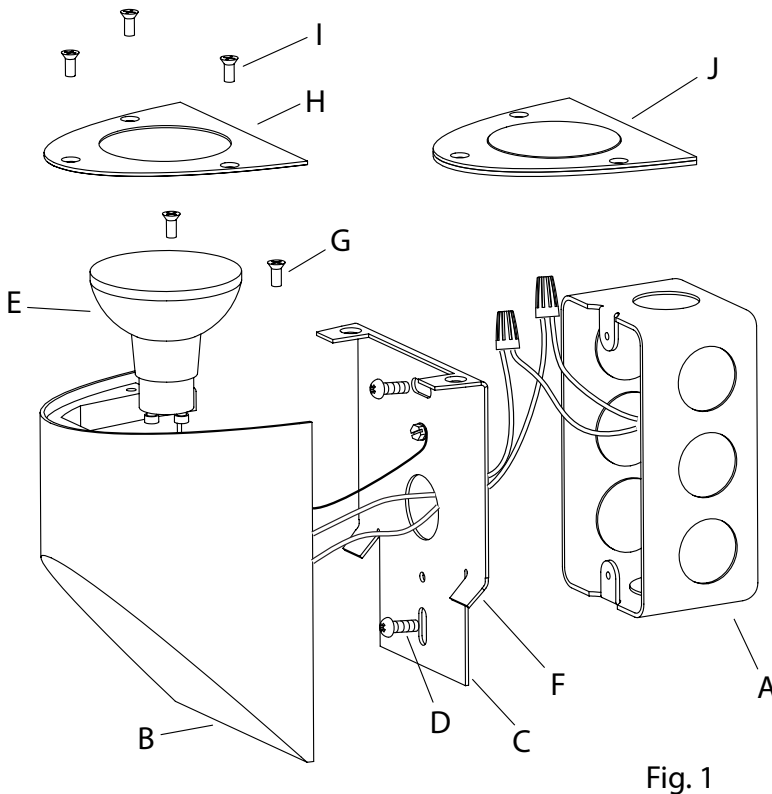
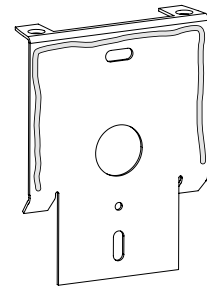
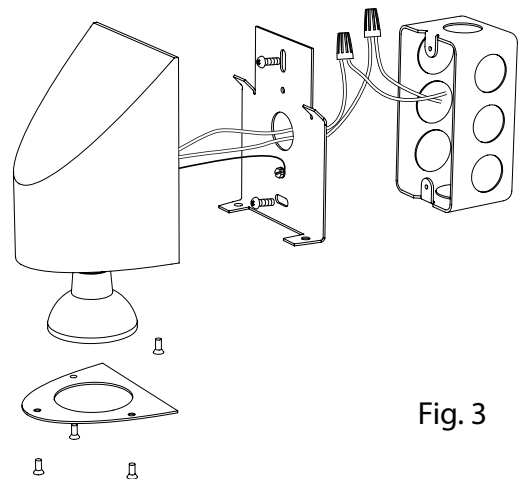

Fig. 1
Fig. 2
Fig. 3
1. Shut off power to the outlet box (A).
- a. Connect the fixture's (B) live wire (black) to the live outlet box wire.
- b. Connect the fixture's (B) neutral wire (white) to the neutral outlet box wire.
- c. Connect the fixture's ground wire (green or uncoated) to the ground outlet box wire. If no ground is present in outlet box, connect fixture's ground wire to the mounting plate (C) using the green screw (included).
- d. Carefully place connections in outlet box (A).
3. Attach the mounting plate (C) to the outlet box (A), secure with outlet box screws (D).
**For Wet Location Use:** If installing for uplight (Fig. 1), place a bead of silicone or water proof caulk (not included) around the top and sides of the mounting plate (Fig. 2) between the mounting plate and the wall, with a mounting height at least 4' from the ground.
4. Install a GU10 base MR16 LED bulb (E) into the fixture (B).
5. Install the fixture (B) to the mounting plate (C) by hooking the two bends (F) onto the tabs in the fixture. Secure with mounting screws (G).
6. Place the cover plate (H) onto the fixture (B), secure with screws (I).
**For Wet Location Use:** If installing for uplight (Fig. 1), or for downlight (Fig. 3) with a mounting height less than 4' from the ground, use the sealing cover plate (J) with rubber gasket and clear lens. If installing for downlight (Fig. 3) with a mounting height at least 4' from the ground, either cover plate may be used. If sealing cover plate (J) is used, bulb (E) must be a thermally protected LED bulb, e.g. Sora brand.
7. **For Wet Location Use:** If installing for uplight (Fig. 1), place a small bead of silicone or water proof caulk (not included) around the sides and bottom of the fixture (B) where it comes into contact with the wall. If installing for downlight (Fig. 3), place a small bead of silicone or water proof caulk (not included) around the sides and top of the fixture (B) where it comes into contact with the wall.